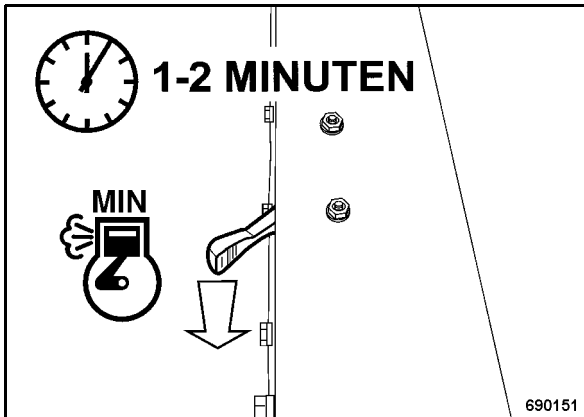

Fig. 32
- Shift the throttle lever to position "MIN" (Fig. 32) and let the engine run with idle speed for a short while.